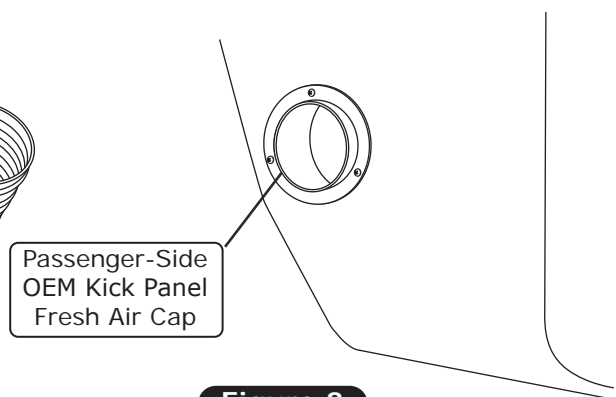

Figure 3
6. Remove the passenger-side kick panel fresh air cap (discard cap, retain mounting hardware) (See Figure 3, below).